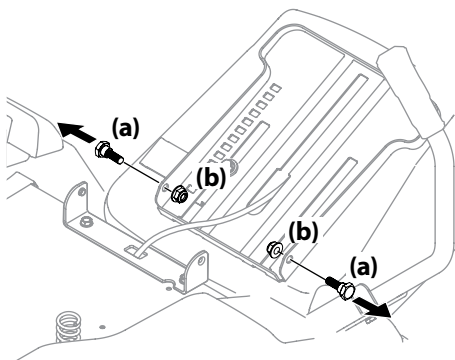

Figure 2-3
2. Remove the two shoulder screws (a) and lock nuts (b) in the seat pan as shown in Figure 2-3.